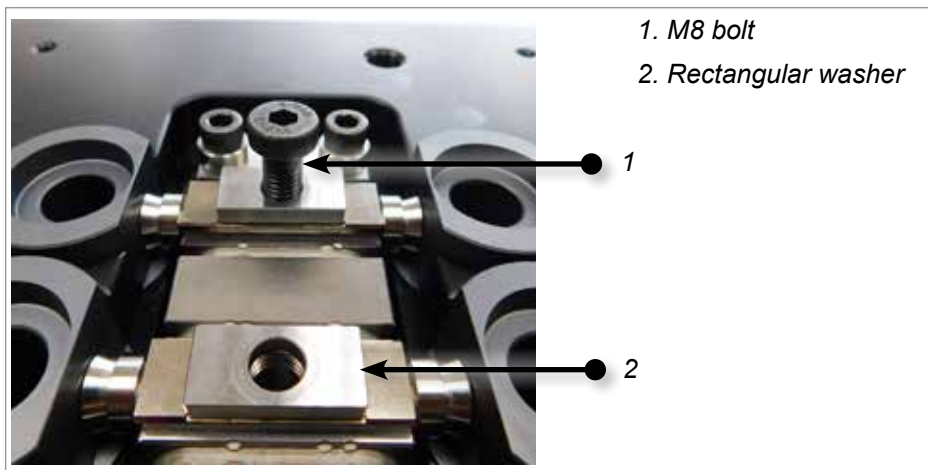

Figure 19-28 Install rectangular washer and bolt
2. Insert the rectangular washer and the M8 bolt onto the melt block. Torque bolt at 27 Nm (20 ft.lbs). See Figure 19-28.